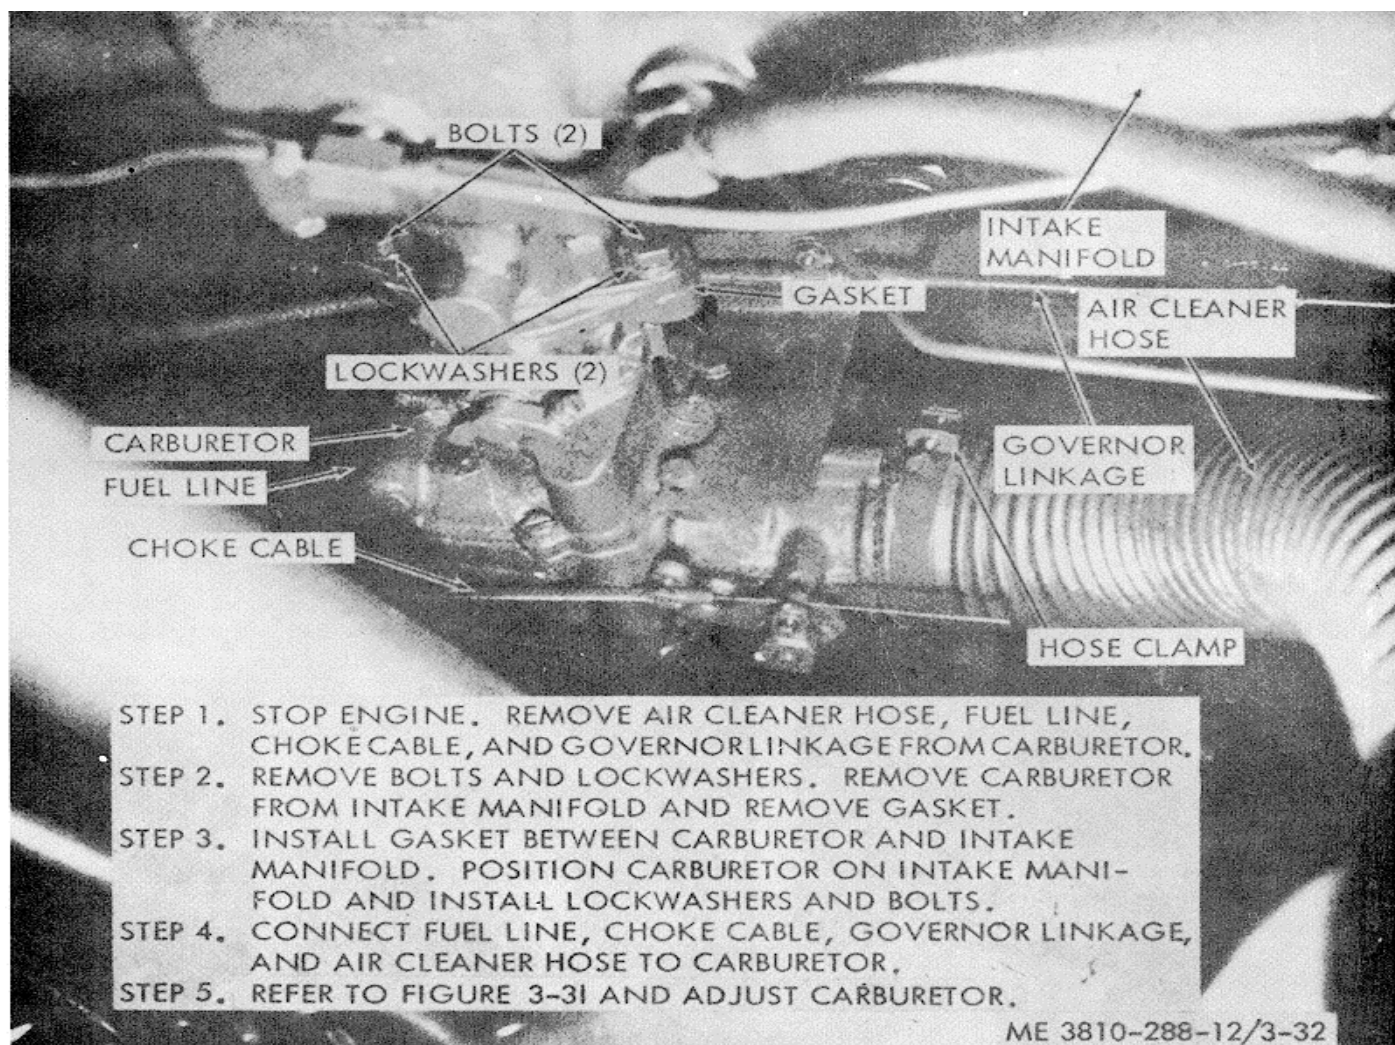

Figure 3-32. Carburetor, removal and replacement.
(2) *Removal and replacement.* Refer to figure 3-32 and remove and replace the carburetor.
(1) *Stop engine.* Refer to figure 3-32 and remove carburetor. Refer to figure 3-46 and remove muffler and exhaust pipe.
(2) Disconnect vent hose and starting aid fuel line from intake manifold.
(1) Position gasket on intake manifold, place exhaust manifold on intake manifold, and install four bolts and four lockwashers.
(2) Position gaskets on manifold ports and install manifold on engine. Install clamps on the studs at each end of manifold and secure with manifold nuts. Install remaining manifold nuts on remaining studs.
(3) Refer to figure 3-32 and install carburetor. Refer to figure 3-46 and install muffler and exhaust pipe. Reconnect vent hose and starting aid fuel line to intake manifold.
- STEP 1. STOP ENGINE. REFER TO FIGURE 3-32 AND REMOVE CHOKE CABLE FROM CARBURETOR. UNSCREW JAM NUT, AND REMOVE THE CHOKE CABLE.
- STEP 2. INSERT CABLE THROUGH OPENING IN CONTROL PANEL, AND INSTALL JAM NUT. INSTALL NEW CHOKE CABLE IN SAME POSITION AS OLD CABLE. ATTACH CABLE TO CARBURETOR AS SHOWN IN FIGURE 3-32.